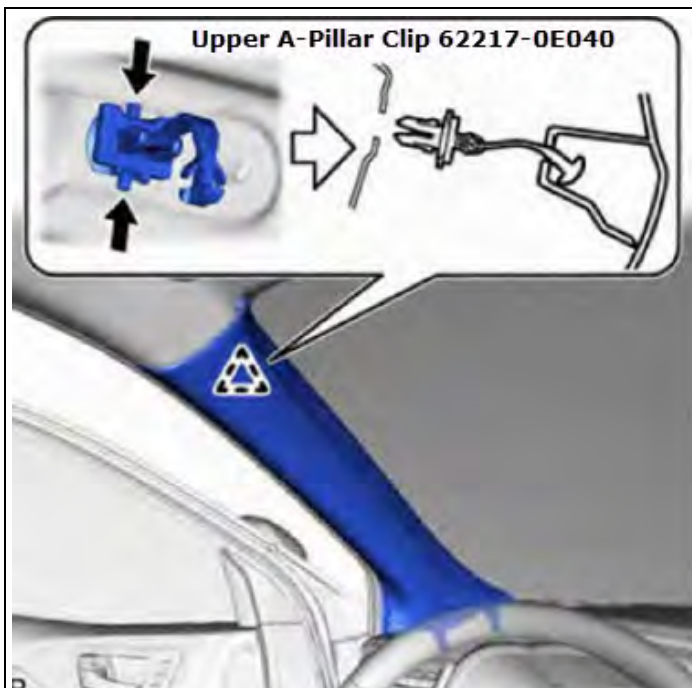

Figure 5
5. While pushing the tabs on the LH front A-Pillar garnish clip (A) in the direction indicated by the arrow shown in the illustration, disengage the LH front A-Pillar garnish clip (A). Remove the LH front A-Pillar clip from the A-Pillar. The clip CAN NOT be reused. DESTROY and DISPOSE of clip. See figure 5.
6. Using needle-nose pliers with the tips wrapped with protective tape, rotate the front pillar garnish clip (B) 90° in the direction indicated by the arrow (1) shown in the illustration. Pull the LH front pillar garnish in the direction indicated by the arrow (2) shown in the illustration to disengage it from the front pillar garnish clip (B). Pull the LH front pillar garnish in the direction indicated by the arrow (3) shown in the illustration to disengage the 2 guides to remove the LH front pillar garnish. Remove the LH front A-Pillar clip from the A-Pillar. The clip CAN NOT be reused. DESTROY and DISPOSE of clip. See figure 5. See figure 6.